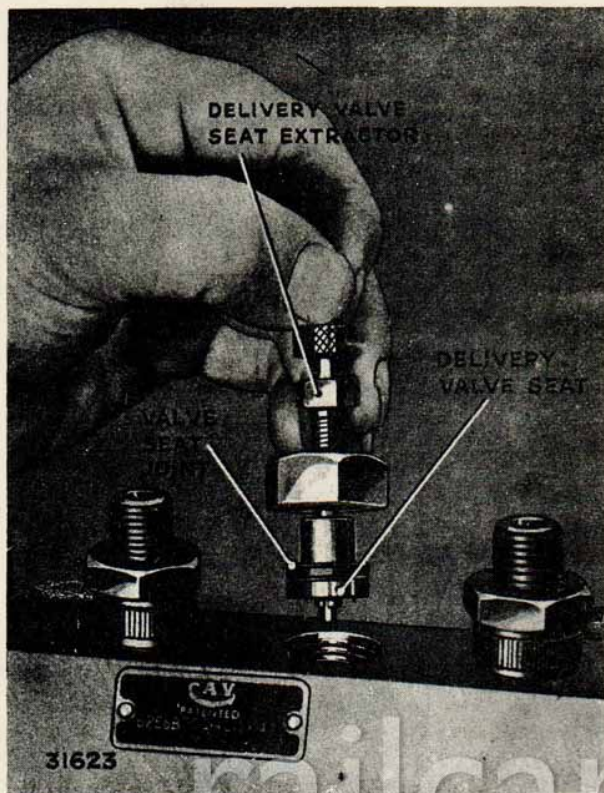

FIG. 25. REMOVING DELIVERY VALVE SEATING.
9. Unscrew delivery valve holder, withdraw spring, spring peg, and delivery valve. The valve seating and its joint can now be removed by the extractor tool (Fig25 ).